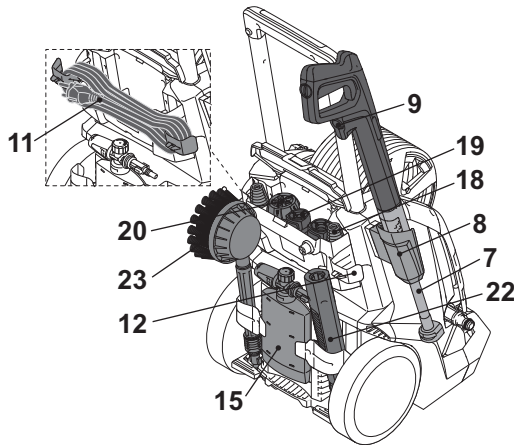

Fig. 18
Use the upper spray gun holder (8) to store the spray gun (9) and extension lance (7) (Fig. 18).
Accessories (soap tank (15), rotary nozzle (18), rotary nozzle adaptor (19), 5 in 1 nozzle (20), short extension lance (22), rotary brush (23)) can be stored at the back of the product. (Fig. 18).